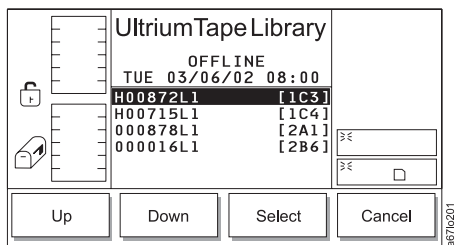

Figure 4-38. Select Media Dialog
- Press the button below the **Page Up** or **Page Down** softkey to locate the cartridge that you want, then press the button below the **Select** softkey. The Select Media Dialog displays with a selection bar that lets you choose a cartridge (see Figure 4-38).